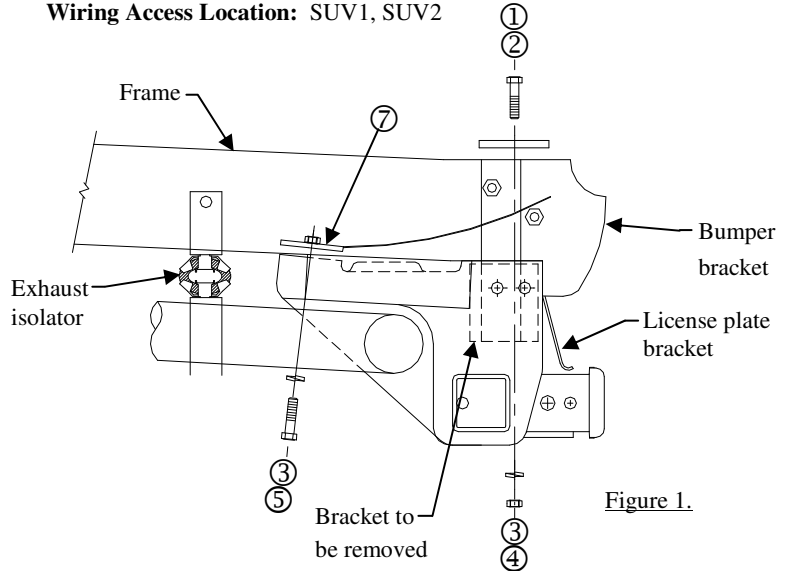

Figure 1.
①	Qty. (2)	Bolt 1/2-13 X 1.50	⑥	Qty. (2)	Nut M8 X 1.25
②	Qty. (2)	Spacer	⑦	Qty. (2)	Wire Nut Spacer
③	Qty. (6)	Lock Washer 1/2	⑧	Qty. (2)	Lock Washer 5/16
④	Qty. (4)	Hex Nut 1/2-13	⑨	Qty. (4)	Flat Washer 5/16
⑤	Qty. (2)	Bolt M12 X 1.25 X 35	⑩	Qty. (2)	Bolt 1/2-13 X 1.25
1. Remove bracket from each side of vehicle frame as shown in Figure 1. Save brackets and fasteners for reinstallation if the receiver is removed from the vehicle.
4. Install 1/2" hex bolt, spacer, lock washer and nut through bottom of frame as shown in Figure 1.
7. While holding nut spacer in place, install M12 hex bolt and lock washer through side bracket and into nut block as shown in Figure 1.
8. Assemble two (2) 5/16" flat washers and one (1) 5/16" lock washer to each end of exhaust isolator, as shown in Detail "B" and reinstall using 8mm hex nuts provided. If additional exhaust clearance is required, bend metal portion of isolator as indicated by arrows.